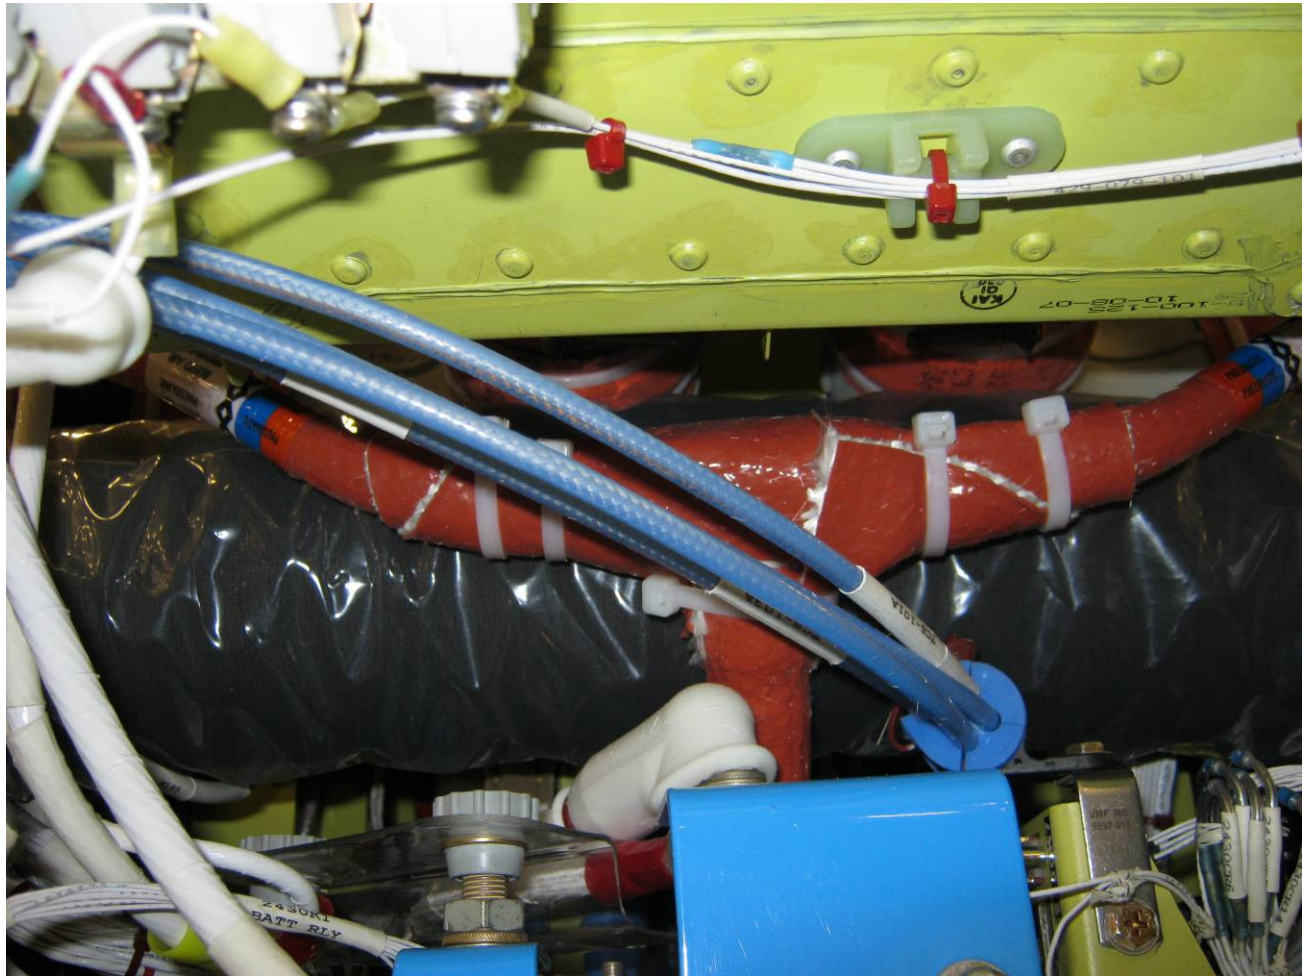

Figure 9: Firesleeve over defroster Tee fitting and heater tube.
11. If Air Comm Defroster 429H-928 is installed, it is acceptable to cut S-5002EC-24 Firesleeve to fit and wrap over the ES41158-6-6-8 Tee and 429H-5032-159 Heater Tube (running vertically below the tee) to protect the 429EC-6012-3 Crossover Duct Assembly. Secure Firesleeve in place using Tywraps. See Figure 9.